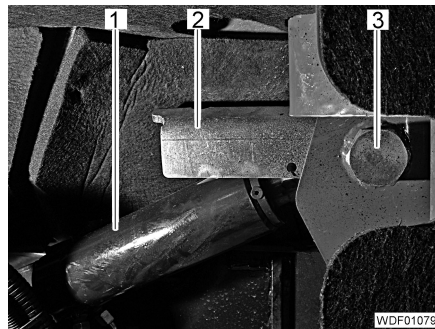

Fig. 461 Hydraulic cylinder attachment
- Unscrew the screw (Fig. 461,3).